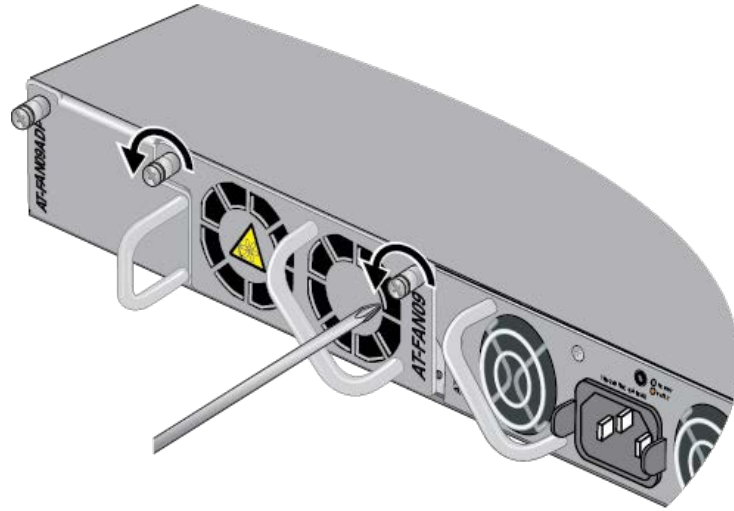

Figure 41. Loosening the Two Captive Screws on the AT-FAN09 Module
3. Loosen the two captive screws on the AT-FAN09 Fan Module with a cross-head screwdriver. Refer to Figure 41 on page 106.